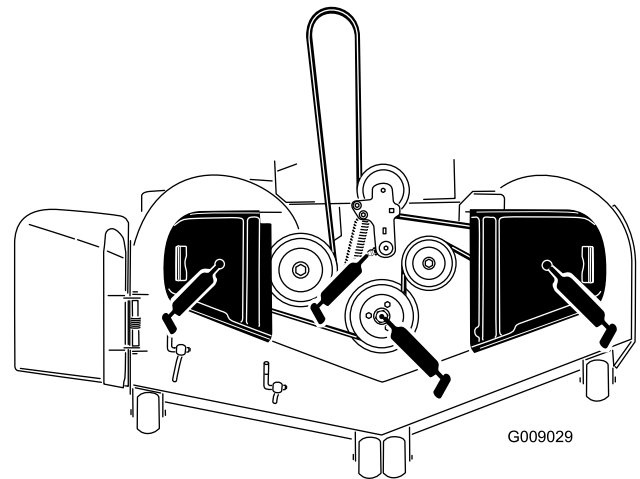

Figure 41
3. Grease the mower deck idler-pulley pivot until grease comes out the bottom (Figure 41).
4. Grease the 3 spindle bearings until grease comes out (Figure 41).
5. Grease the drive-belt-idler arm (Figure 41).